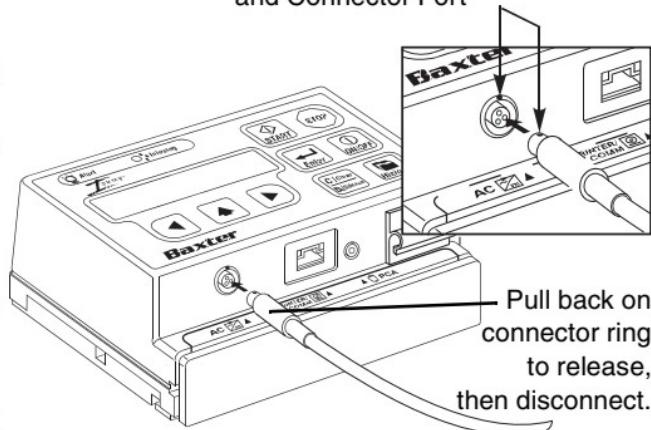

Figure 3-2 AC Adapter Connection
3. Align the red dot on the connector with the red dot on the AC connector port (see Figure 3-2). If these dots are not lined up, the connector will not seat firmly in the port.